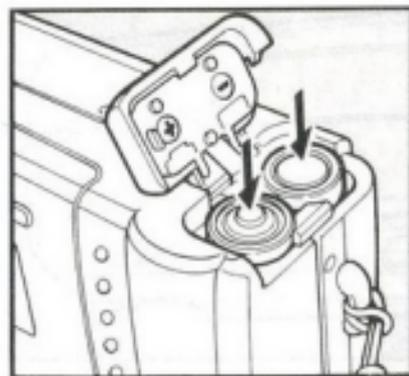

Fig.3 Abb.3 1.3
- With the battery inserted incorrectly, the camera will not work. Make sure the battery is installed as shown in Fig. 3.